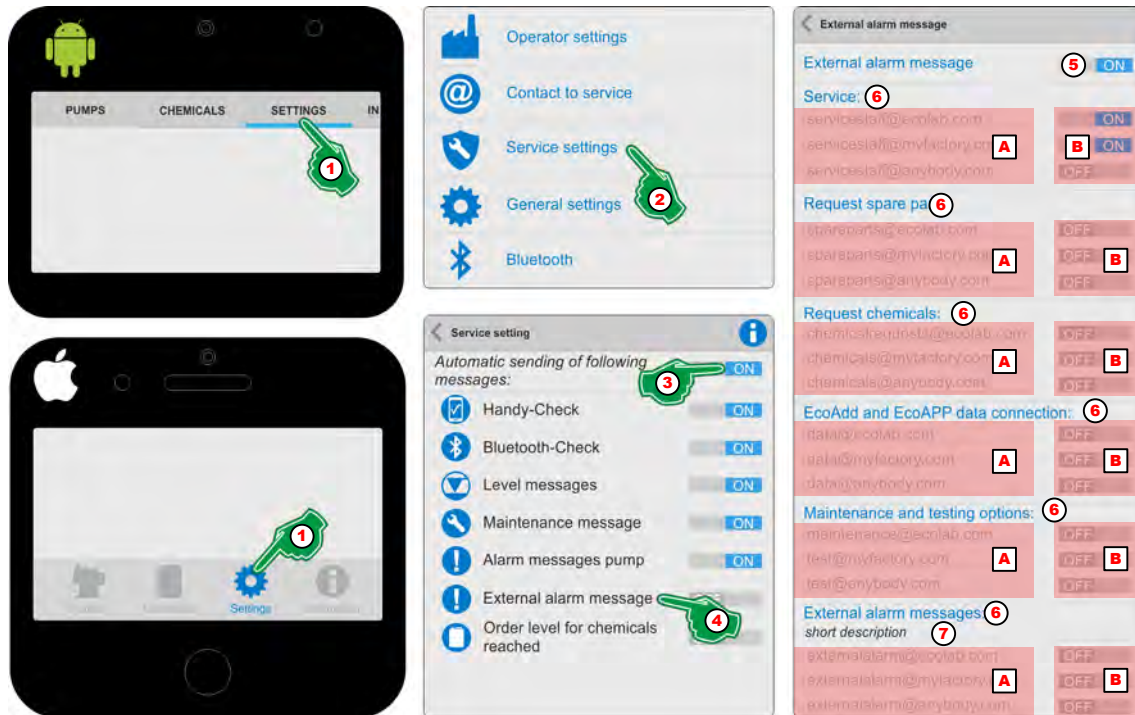

Fig. 50: 'External alarm messages'
1. Select [Settings] (Fig. 50, Pos. 1).
2. Select [Service Settings] (Fig. 50, Pos. 2).
3. Turn on 'Automatic sending of following messages' (Fig. 50, Pos. 3) **ON**.
4. The symbol or designation 'External alarm messages' (Fig. 50, Pos. 4).
5. Turn on 'External alarm messages' (Fig. 50, Pos. 5) **ON**.
6. Turn on desired service contacts (Fig. 50, Pos. A) **ON** (Fig. 50, Pos. B) .
7. To display errors when using an external controller (Fig. 50, , Pos. 7) introduce a brief description (Fig. 50, Pos. 8) for identification.